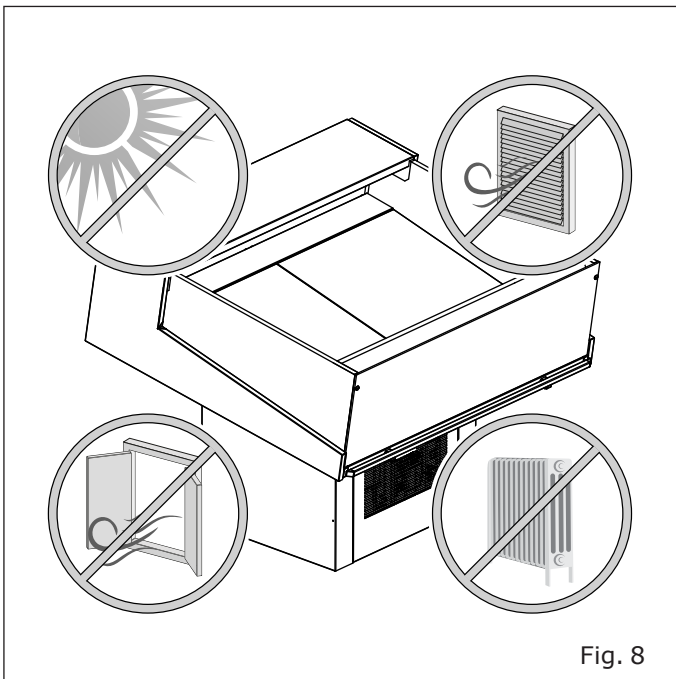

Fig. 8
- Far from heat sources, from the direct radiation of the sun, from doors, windows, fans and air vents ("Fig. 8").